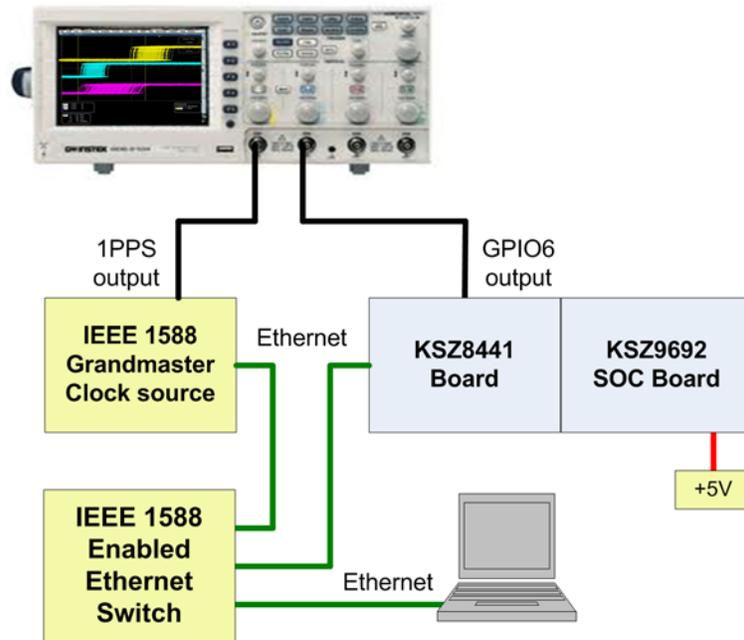
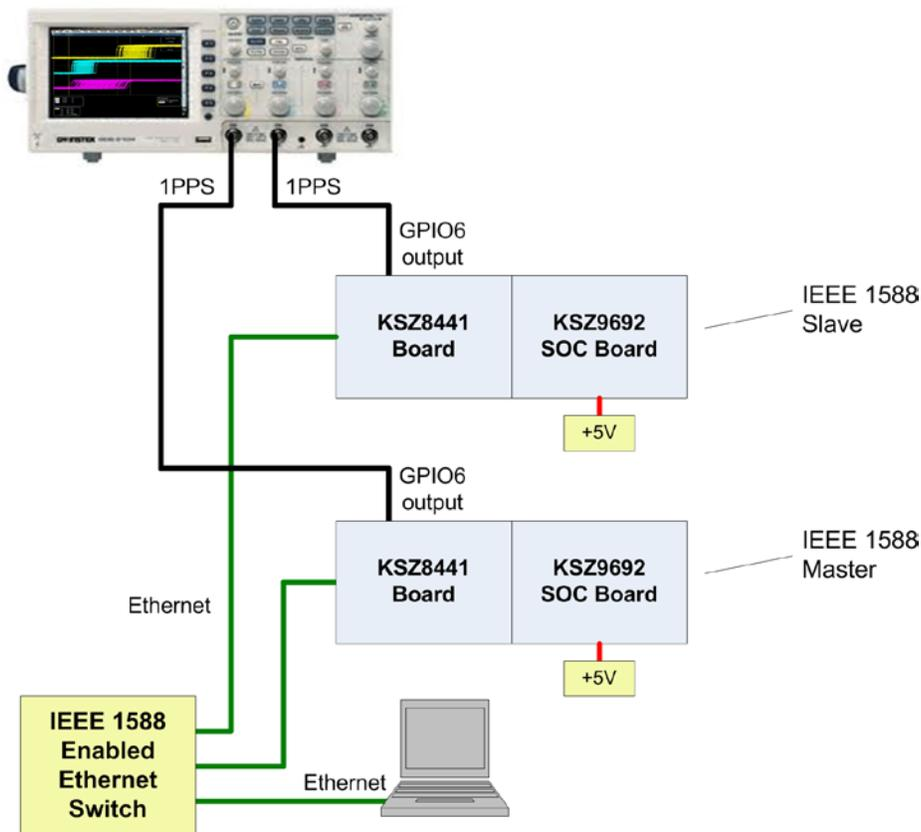

Figure 4 Setup #3
Figure 5 Setup #4
Figure 4 shows one KSZ8441 network node, but additional KSZ8441 nodes may be connected to the switch.
3. Use an IEEE 1588 Ethernet switch to connect together the Ethernet ports of the IEEE1588 grandmaster clock source, the KSZ8441 board(s), and the PC as shown in Figure 5.
Ethernet is an alternative method for communication between the SOC boards and a PC. It has an advantage over serial port communication because only a single Ethernet connection is required at the PC for simultaneous communication to all the networked KSZ8441 / SOC nodes. Connection setups are shown in Figure 4 and Figure 5.